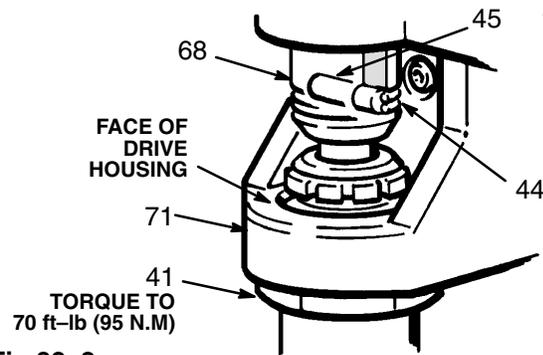

Fig 32-2
### Reinstalling the Pump Refer to Fig 32-2.
Be sure the retaining spring (44) is firmly in the groove of the connecting rod, *all the way around*, to prevent it from working loose due to vibration. See Fig 32-2.
1. Unscrew the intake valve (220) from the cylinder (219). Remove the gasket (214\*), ball guide (213), stop pin (212\*) and ball (203\*) from the valve. Clean and inspect the parts for wear or damage, replacing parts as needed. **Always** use a new gasket (214\*), provided in the repair kit. See Fig 32-2.
2. Unscrew and remove the packing nut (21) and plug (209).
5. Clamp the flats of the piston rod in a vise. Use a 7/8 in. wrench to loosen the retaining nut (207), and then to unscrew the piston valve (222) from the rod.